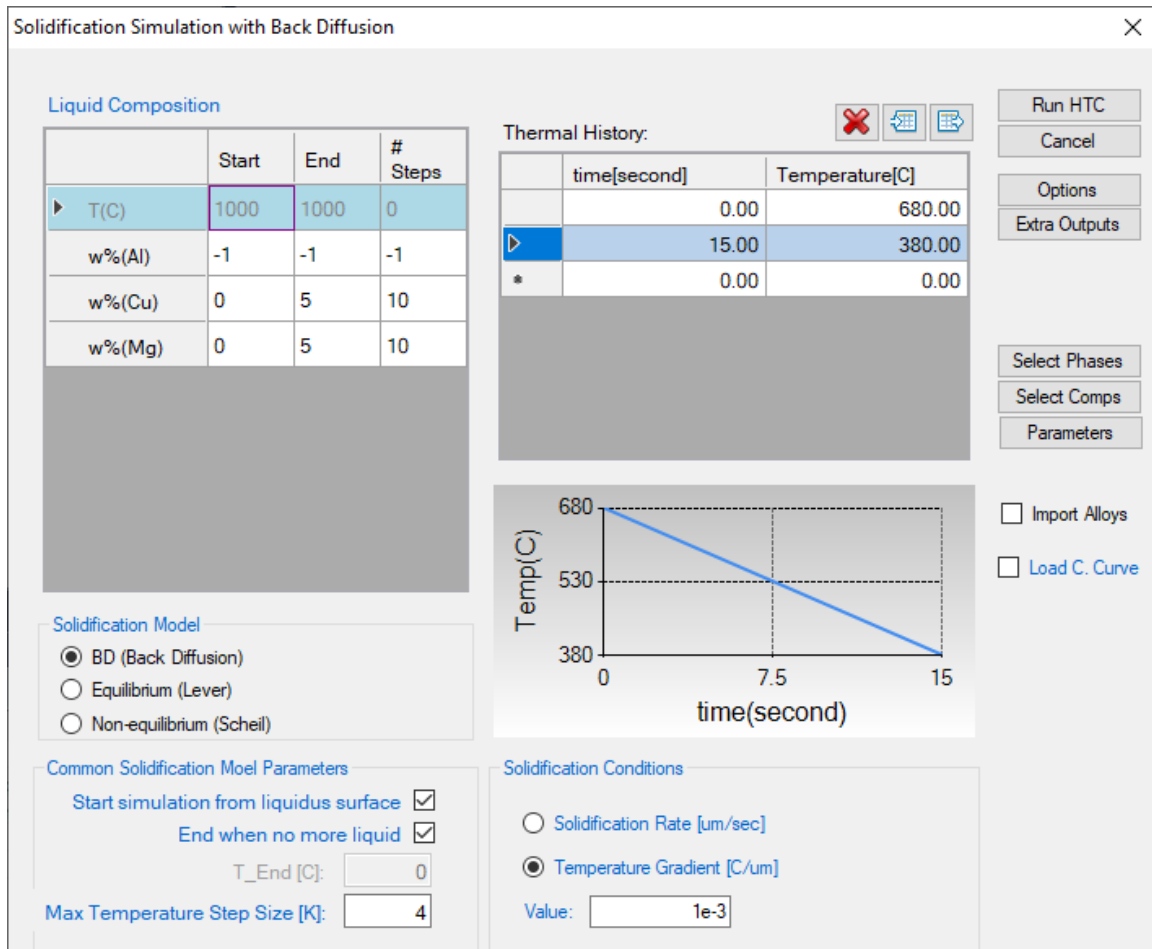
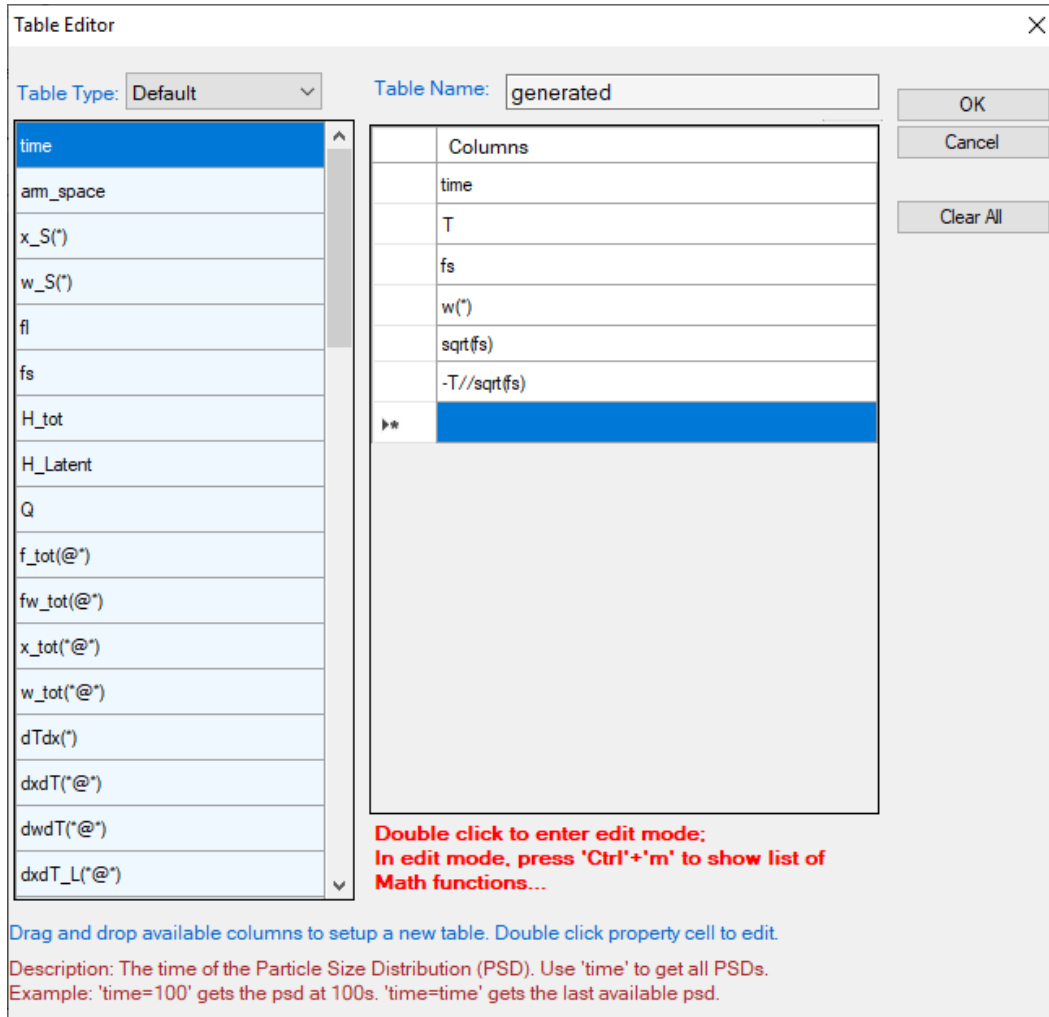

Figure 5.3.2: Dialog to setup compositional space and solidification conditions for PanSolidification HTC.
Figure 5.3.3: Define properties in the extra output table.
- Define the compositional space for HTC simulation. The composition range is set to 0-5 wt.% Cu and 0-5 wt.% Mg, and mouse right click on the composition field of Al to set as the remaining composition, which is shown as -1 in all the composition field of Al, as shown in Figure 5.3.2.
- Define the solidification conditions for HTC simulation. The same solidification conditions with cooling rate of 20 K/s and Temperature gradient is set as 10^{-3} °C/ μm , as shown in Figure 5.3.2.
- Set “Extra Outputs table”. Click the “Extra Outputs” in Figure 5.3.2. The following extra output is defined as shown in Figure 5.3.3: time; T – temperature; w(*) – alloy composition; fs – solid phase fraction; sqrt(fs) – the square root value of the solid phase fraction; and $-T/\sqrt{fs}$ – the CSI index. Then click OK.